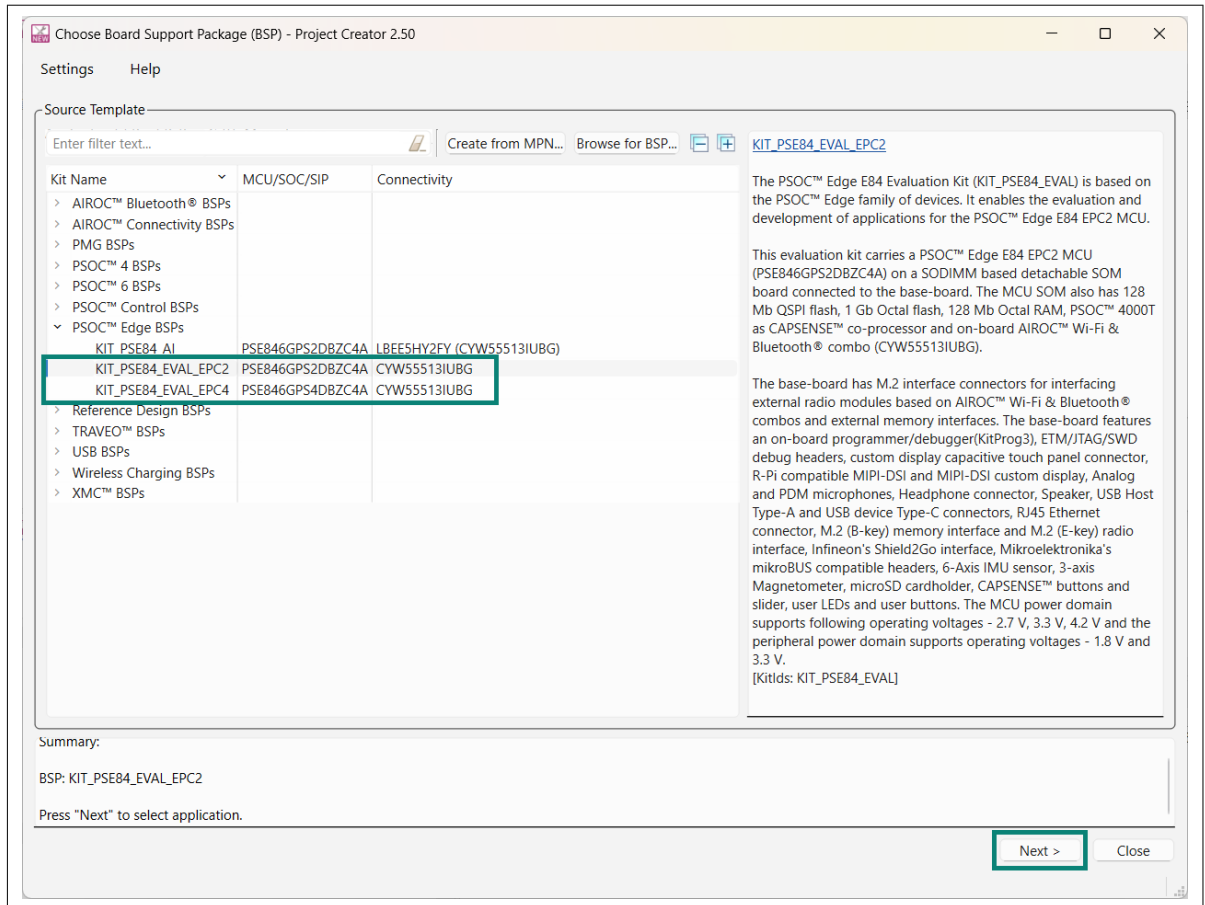

Figure 5 Select BSP for PSOC™ Edge MCU
1. Create the PSOC™ Edge Protect Bootloader application for KIT_PSE84_EVAL_EPC2 or KIT_PSE84_EVAL_EPC4 BSP which is used for creating TF-M application as shown in Figure 5. The example is available under the **Security** section of the code example category